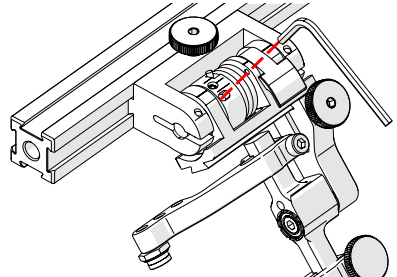

Fig. 54 - Unlatched position
3. Insert the short arm of a 3 mm hex wrench into the 3 mm slot (Fig. 54).